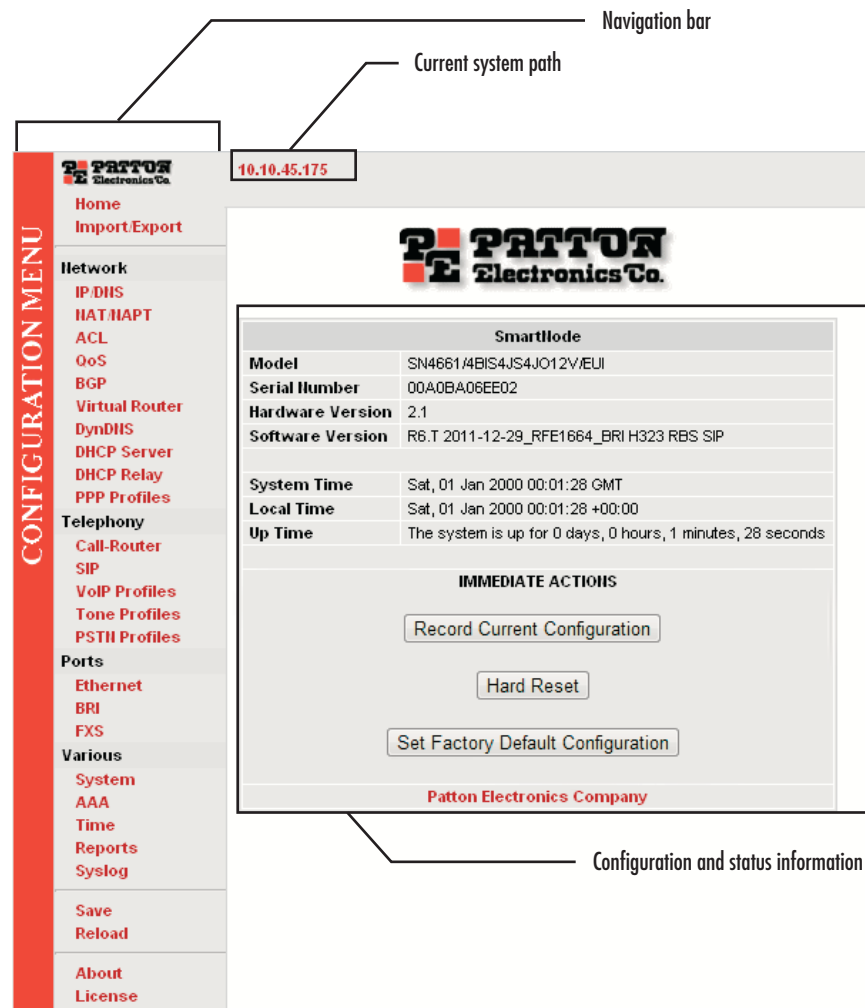

Figure 13. Main GUI elements
1. In the configuration menu pane, click *IP/DNS*. In the *Interfaces* section, click on **eth0**. The Configuration screen for the Ethernet port displays (Figure 13).
The SmartNode supports two configuration options for the Ethernet connection (see Figure 13), as described in the following paragraphs: